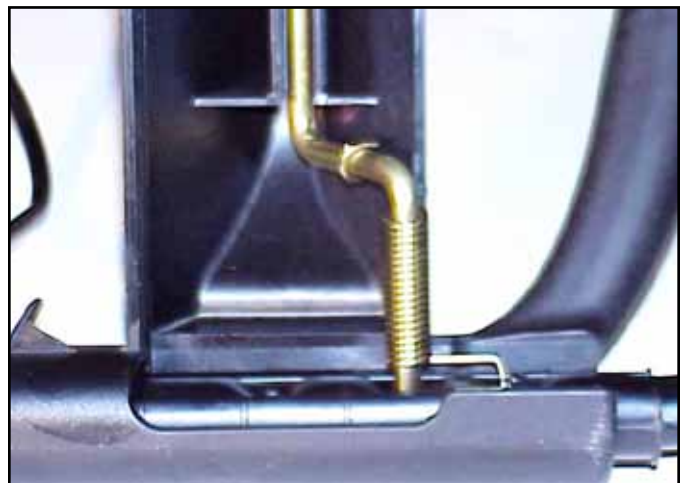

Fig 275
5. When reinstalling the handle, reconnect the spring as shown. The spring should push the handle upwards toward the disengage position (Fig. 275).